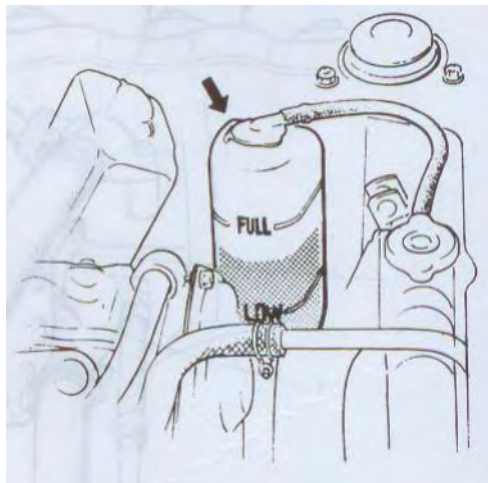

FIG.6-2 (see fig.7-3 of service manual for HFJ6351B)
2) Water Reservoir Tank (FIG. 6-2)